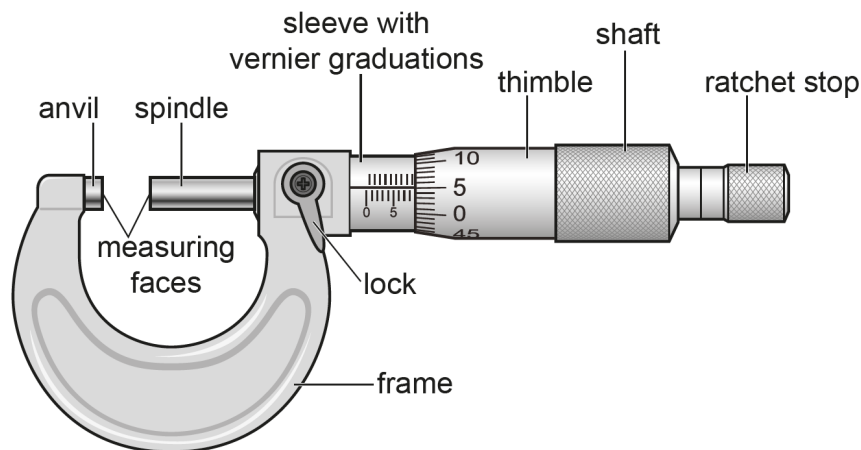

Fig. 4.3
- (c) The diameter of the wire is measured with a screw-gauge micrometer, as shown in Fig. 4.3. The circumference of the rotating thimble is divided into 50 equal steps and for each full rotation of the thimble it moves a further 0.5 mm along the shaft.